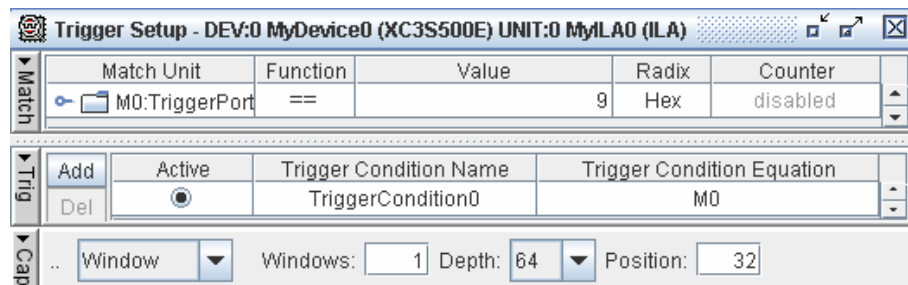

Figure 3.4 - Trigger Setup options
- ③ In the *Trigger Setup* window **Match Functions** tab select **radix** as **Hex** and enter the **value** as **9** and in the **Capture Settings** tab enter the **Depth** as **64** and **position** as **32**. Leave all other options at default values (figure 3.4).